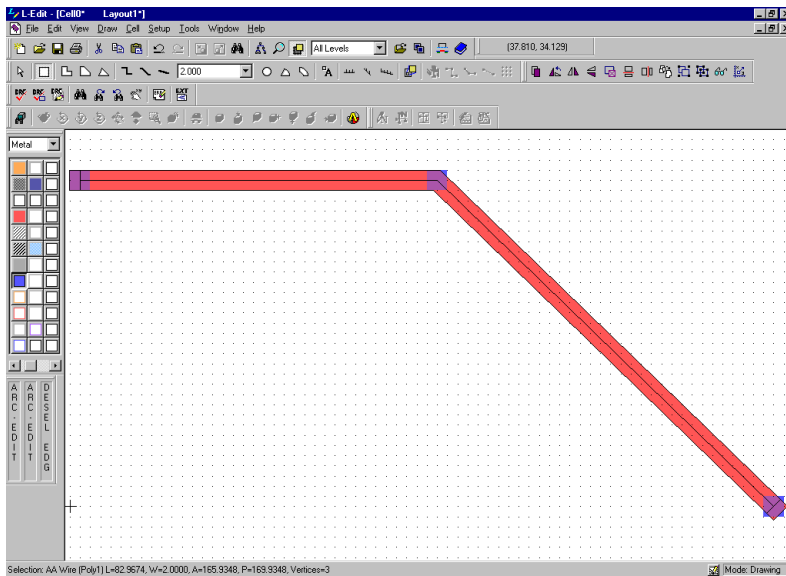

Figure 53: Selecting the reference wire
- ☑ Select the angled wire (often referred to as the "reference wire") (Figure 53) by clicking on it.
A shape factor between  $[-1, 0[$  applied to the second vertex of the selected reference wire (Figure 53) will cause the shape to behave like an interpolation spline.